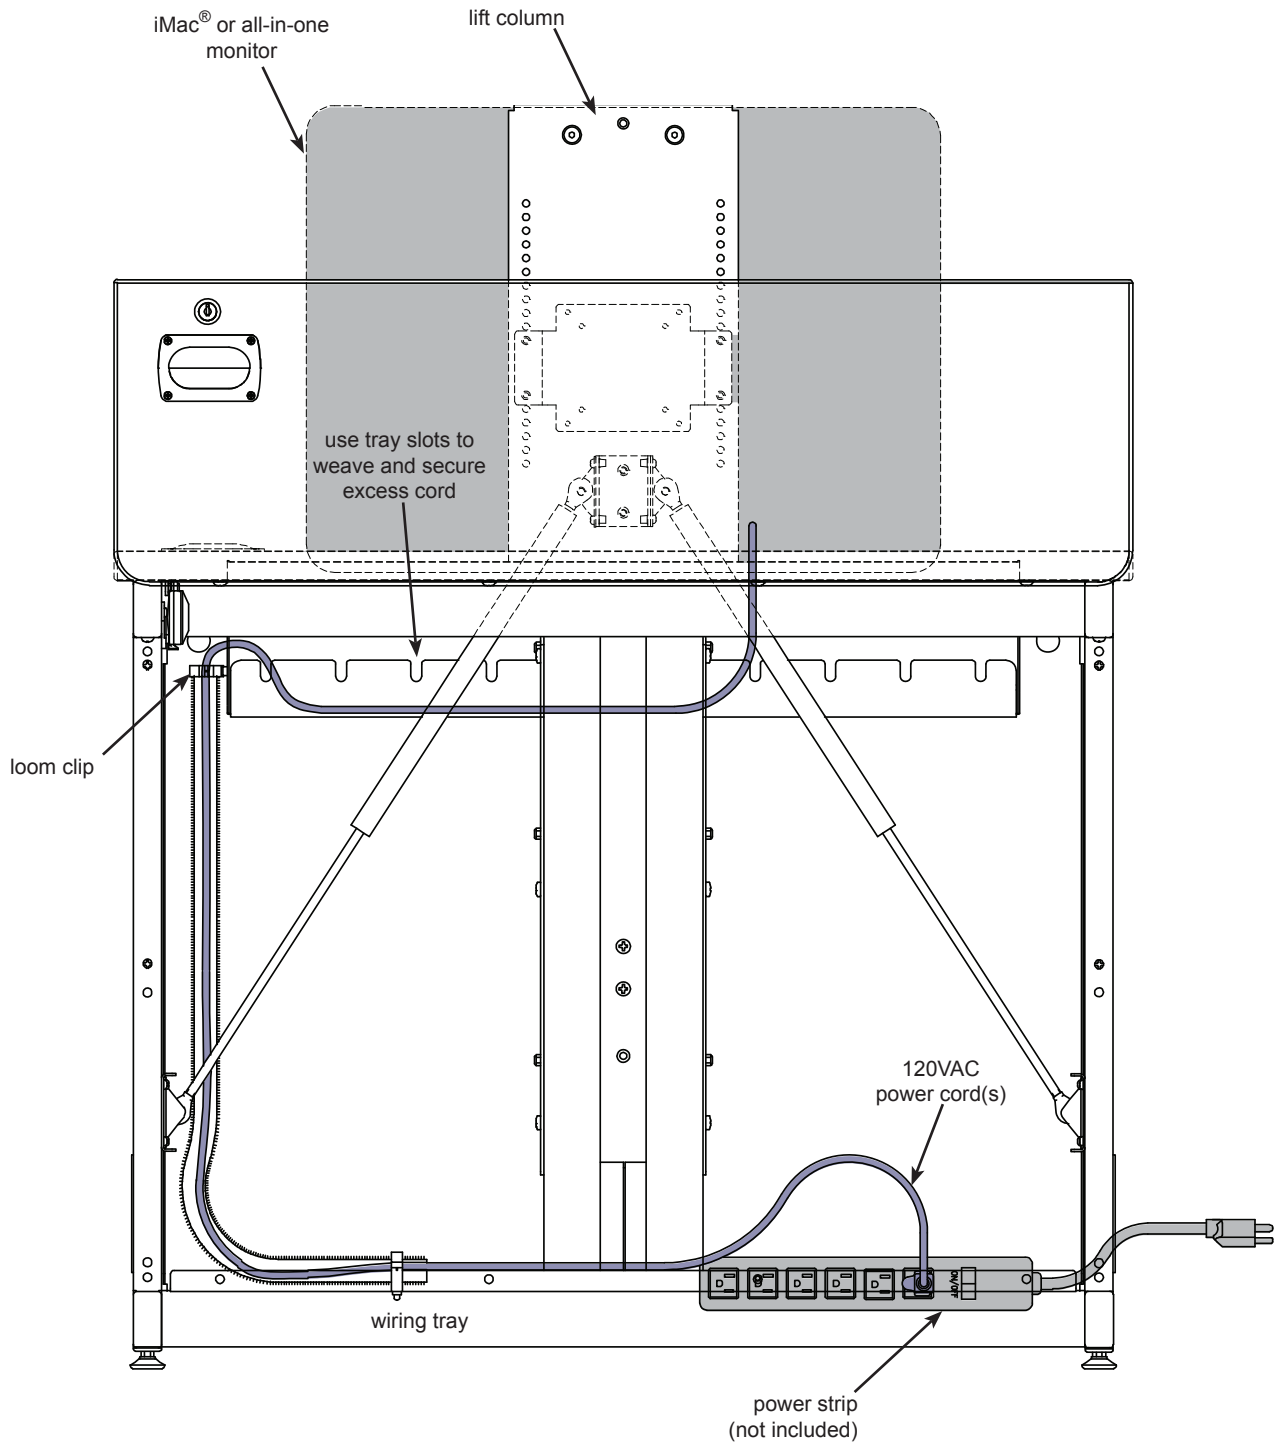

Figure 4D
5. With the loom removed, feed the monitor or all-in-one computer power cord through the sliced opening of the loom to the bottom of the desk as shown. **Figure 4D.**